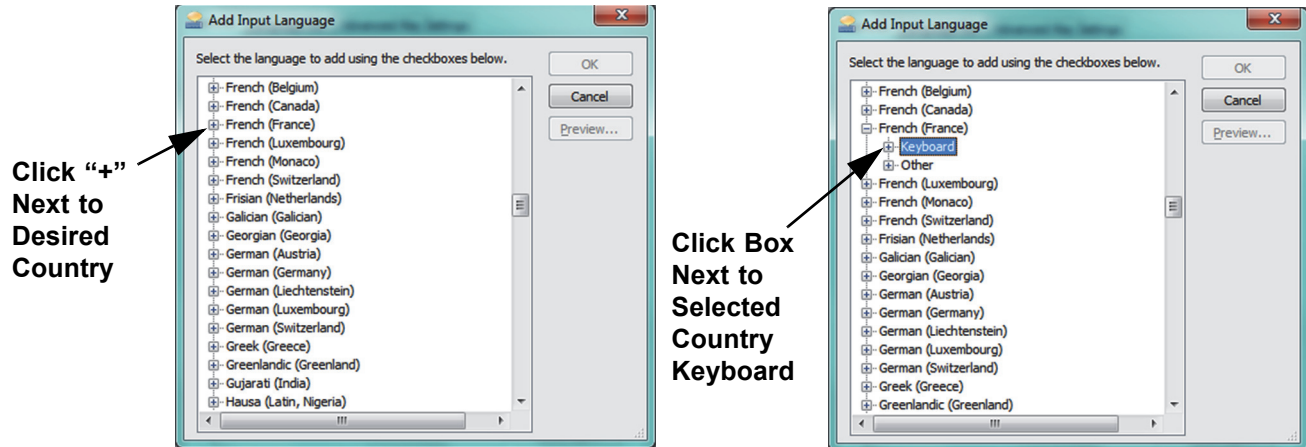
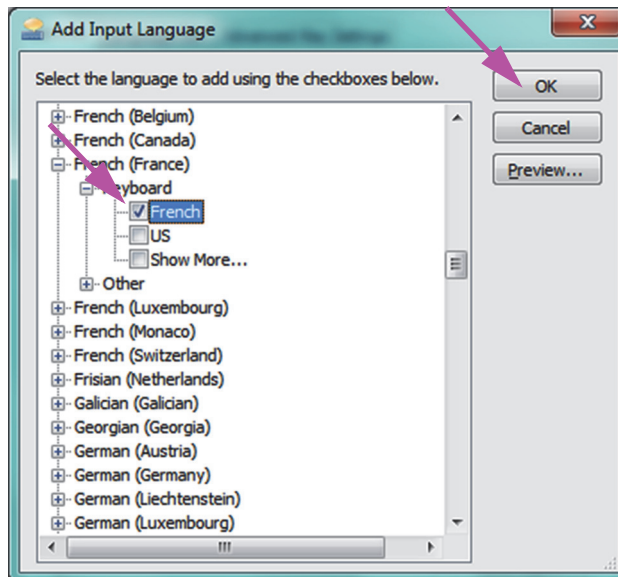

Figure C-4. Add Input Language Screen with French Selected (Example)
Figure C-5. The Add Input Languages Window with all Entries
- On the Add Input Language window, use the drop-down menu to select the desired Language (Country) combination, click the **+** next to the Language (Country), and then click the **+** next to the Keyboard (see Figure C-4).
- After selecting the new keyboard which corresponds to the language selected in Figure C-4, a drop-down menu will appear beneath the keyboard selected (see Figure C-5).